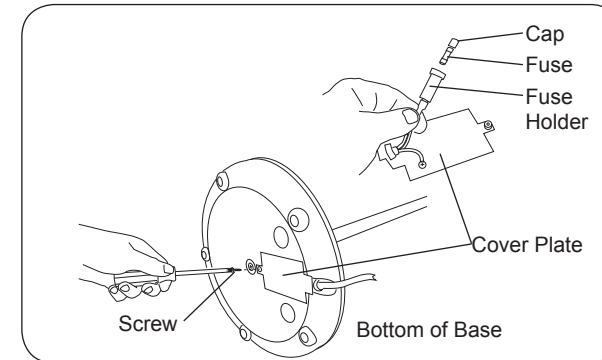

Figure 1. Fuse Location - Incandescent Only
1. Remove cover plate from bottom of base assembly (Figure 1).